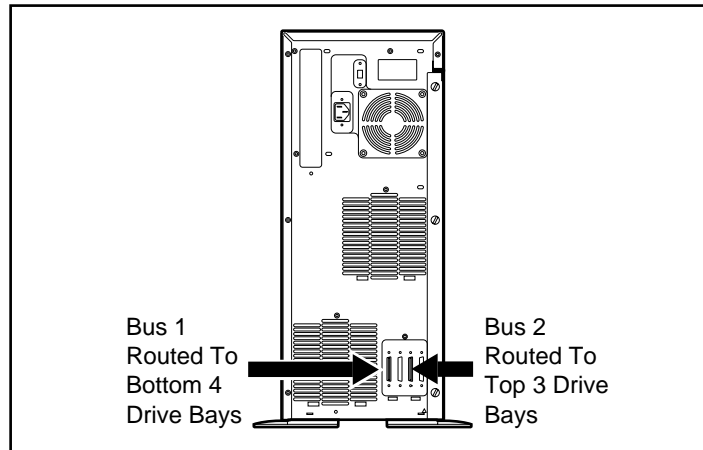

Figure 3-1. SCSI Cable Connections Using the ProLiant Duplexing Option
If you have installed the Fast-Wide Duplexing Option Kit, then the cable connection you made in the previous section applies to the bottom four drive bays (SCSI IDs 0 through 3) in the ProLiant Storage System. The top three drive bays are routed to the connector shown in Figure 3-1. These top three bays are renumbered as SCSI IDs 0 through 2 of a *second* Fast-Wide SCSI-2 bus (Bus 2). These bays should be attached to a second SCSI controller or the second bus of a two channel SCSI controller such as the Compaq SMART SCSI Array Controller.
1. Connect one end of the 6-ft. external wide to wide SCIS cable included in the Duplexing Option Kit to the Bus 2 SCSI connector on the back of the storage system. This connector is in position 3 on the connector panel and supports the three upper drive bays. See Figure 3-1.
1. Connect the wide SCSI end of the 6-ft. external wide to standard SCSI adapter cable included in the Duplexing Option Kit to the Bus 2 SCSI connector on the back of the storage system. This connector is in position 3 on the connector panel and supports the three upper drive bays. See Figure 3-1.